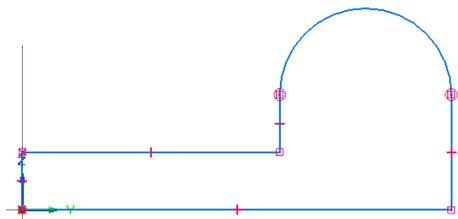

Figure 2-55 Outer loop of the profile for Tutorial 3
12. Click to specify the endpoint of the line. The profile after drawing the outer loop is displayed in Figure 2-55. Next, press ESC to exit the tool.